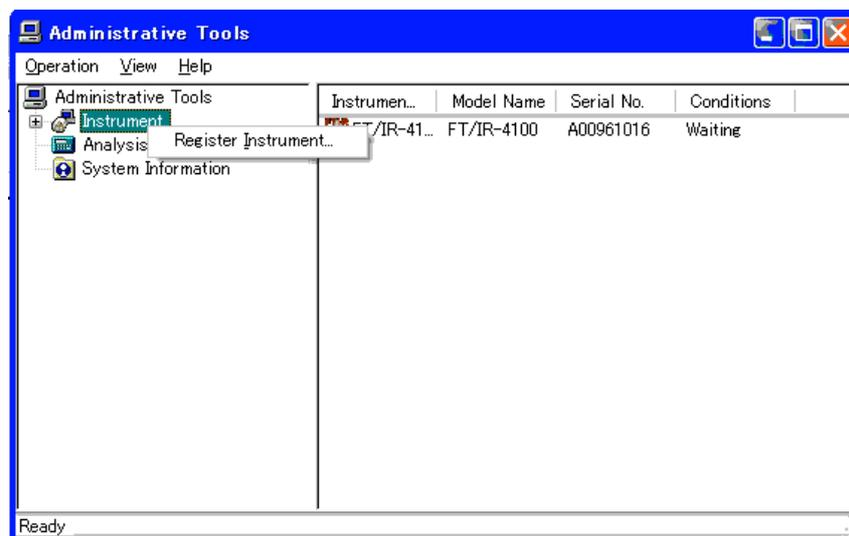

Fig.2.1 Properties
- (1) After [Administrative Tools] is selected, right click the mouse button on the instrument and click on the [Resister Instrument...] command. (Fig. 2.1)